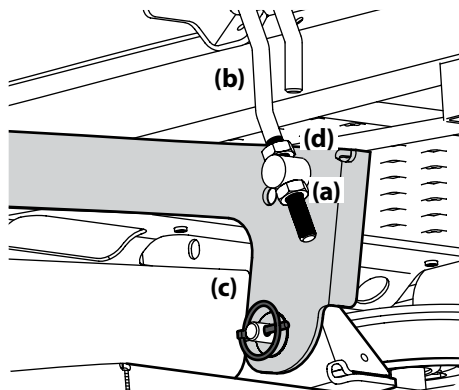

Figure 4-6
3. Loosen the lower jam nut (a) on the adjustable lift link (b) attached to the deck lift arm (c) to lower the deck and tighten the upper jam nut (d) to secure the deck in place, loosen the upper jam nut (d) then tighten the lower jam nut (a) to raise the deck and secure the deck in place. See Figure 4-6.